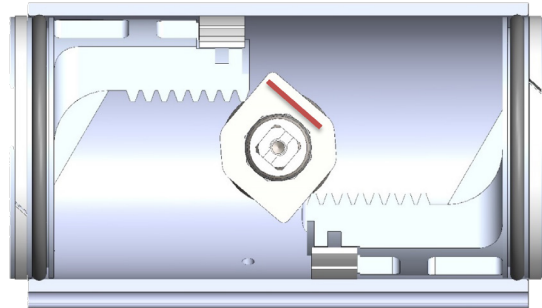

Figure 14: Fail Clockwise
Rotate the pinion to the position shown in Figure 14 or 15 ensuring that the machined stop flats on the stop collar are in the correct orientation.
Note: When converting from DA/SC to DR/SO or vice versa, the pinion needs to rotate 180° for the stop collar to line up with stop bolts. A red line has been added to Figure 14 and 15 for reference to show the 180° rotation as not all 3K stop collars are symmetrical.
3. Insert the 2 pistons into the cylinder with the teeth facing each other as shown. See figures 14 and 15.